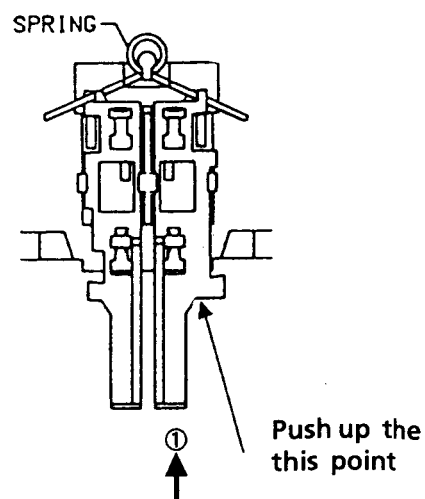

Fig 8
1. Remove the (1)(2)(3)and (4),(5),(8).
3. Push up the Elever as shown in the figure below(Fig .8) and remove the door lock plate.